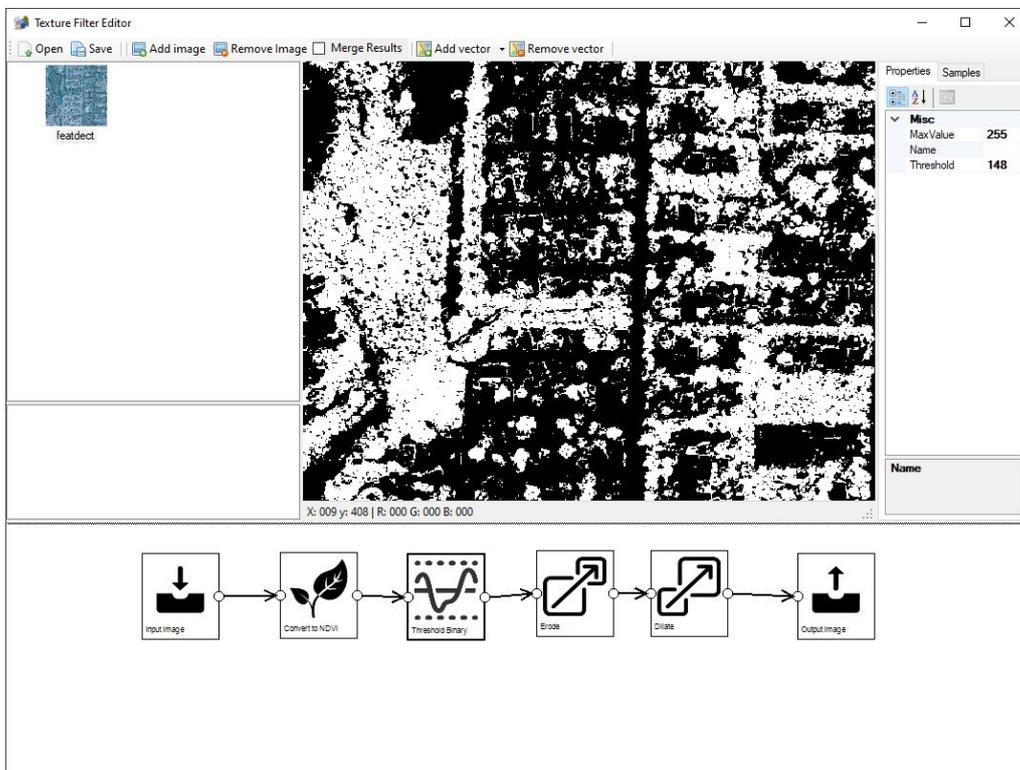

Figure 6.28: Applying a threshold to the NDVI value to select areas with vegetation
3. Binary threshold with a value of 148 to select only the areas with a lot of vegetation (remember a value of 128 corresponds to a NDVI of 0.0), see Figure 6.28.